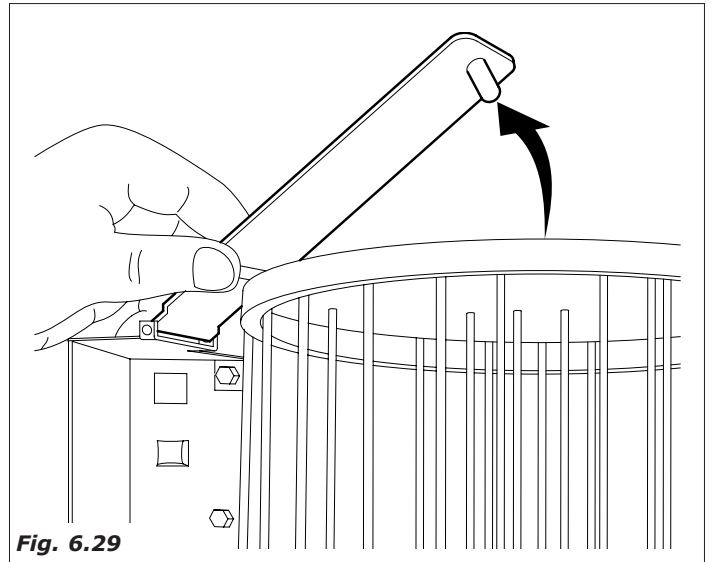

Fig. 6.29
- lift the cup turret's spring band (Fig. 6.29)